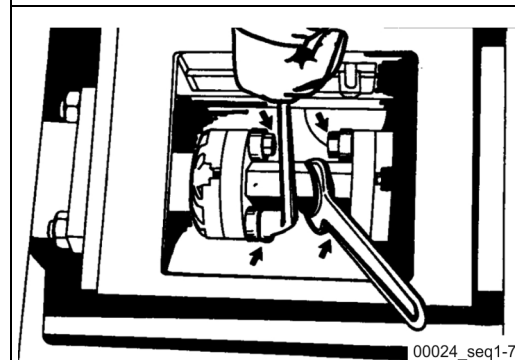

Fig. 339
- Loosen the fastening screws on the distance piece and remove them. While doing so, hold the distance piece on the continuous hexagon (**Fig. 339**).